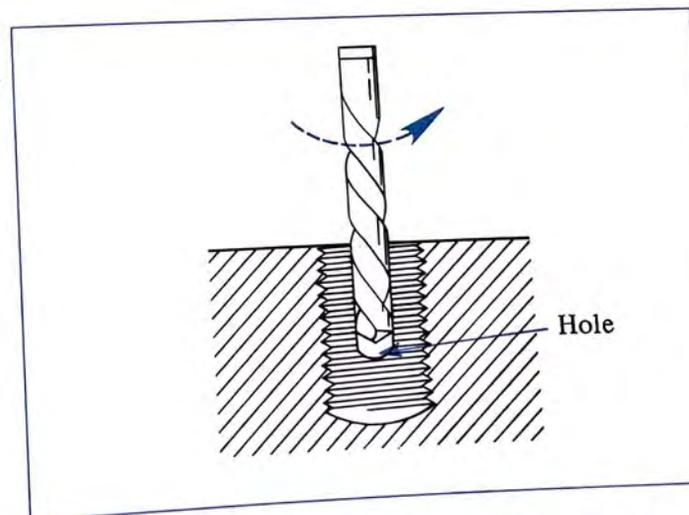

FIGURE 14-12 A Screw Extractor Turned into a Pilot Hole Previously Drilled in a Broken Part
- 1** Turn gently and apply a downward force to set the extractor. (Figure 14-12 shows the position of the extractor in the pilot hole of a broken part.)